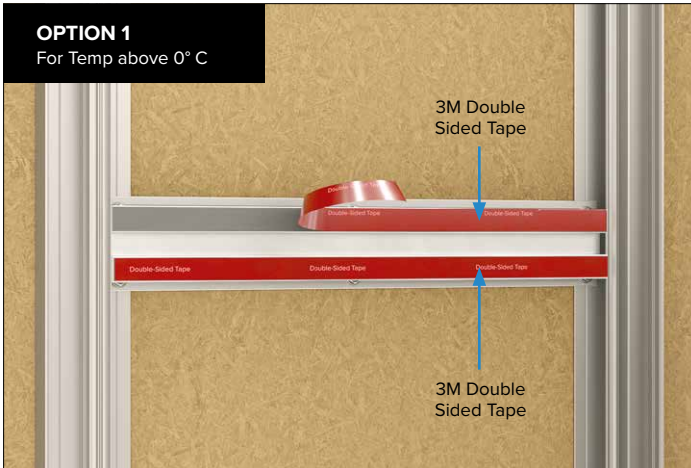

Figure 5
- 5 **Option 1:** For installation in warmer climate (above 0° C), apply 3M double sided tape on both mating surfaces (Figure 5).